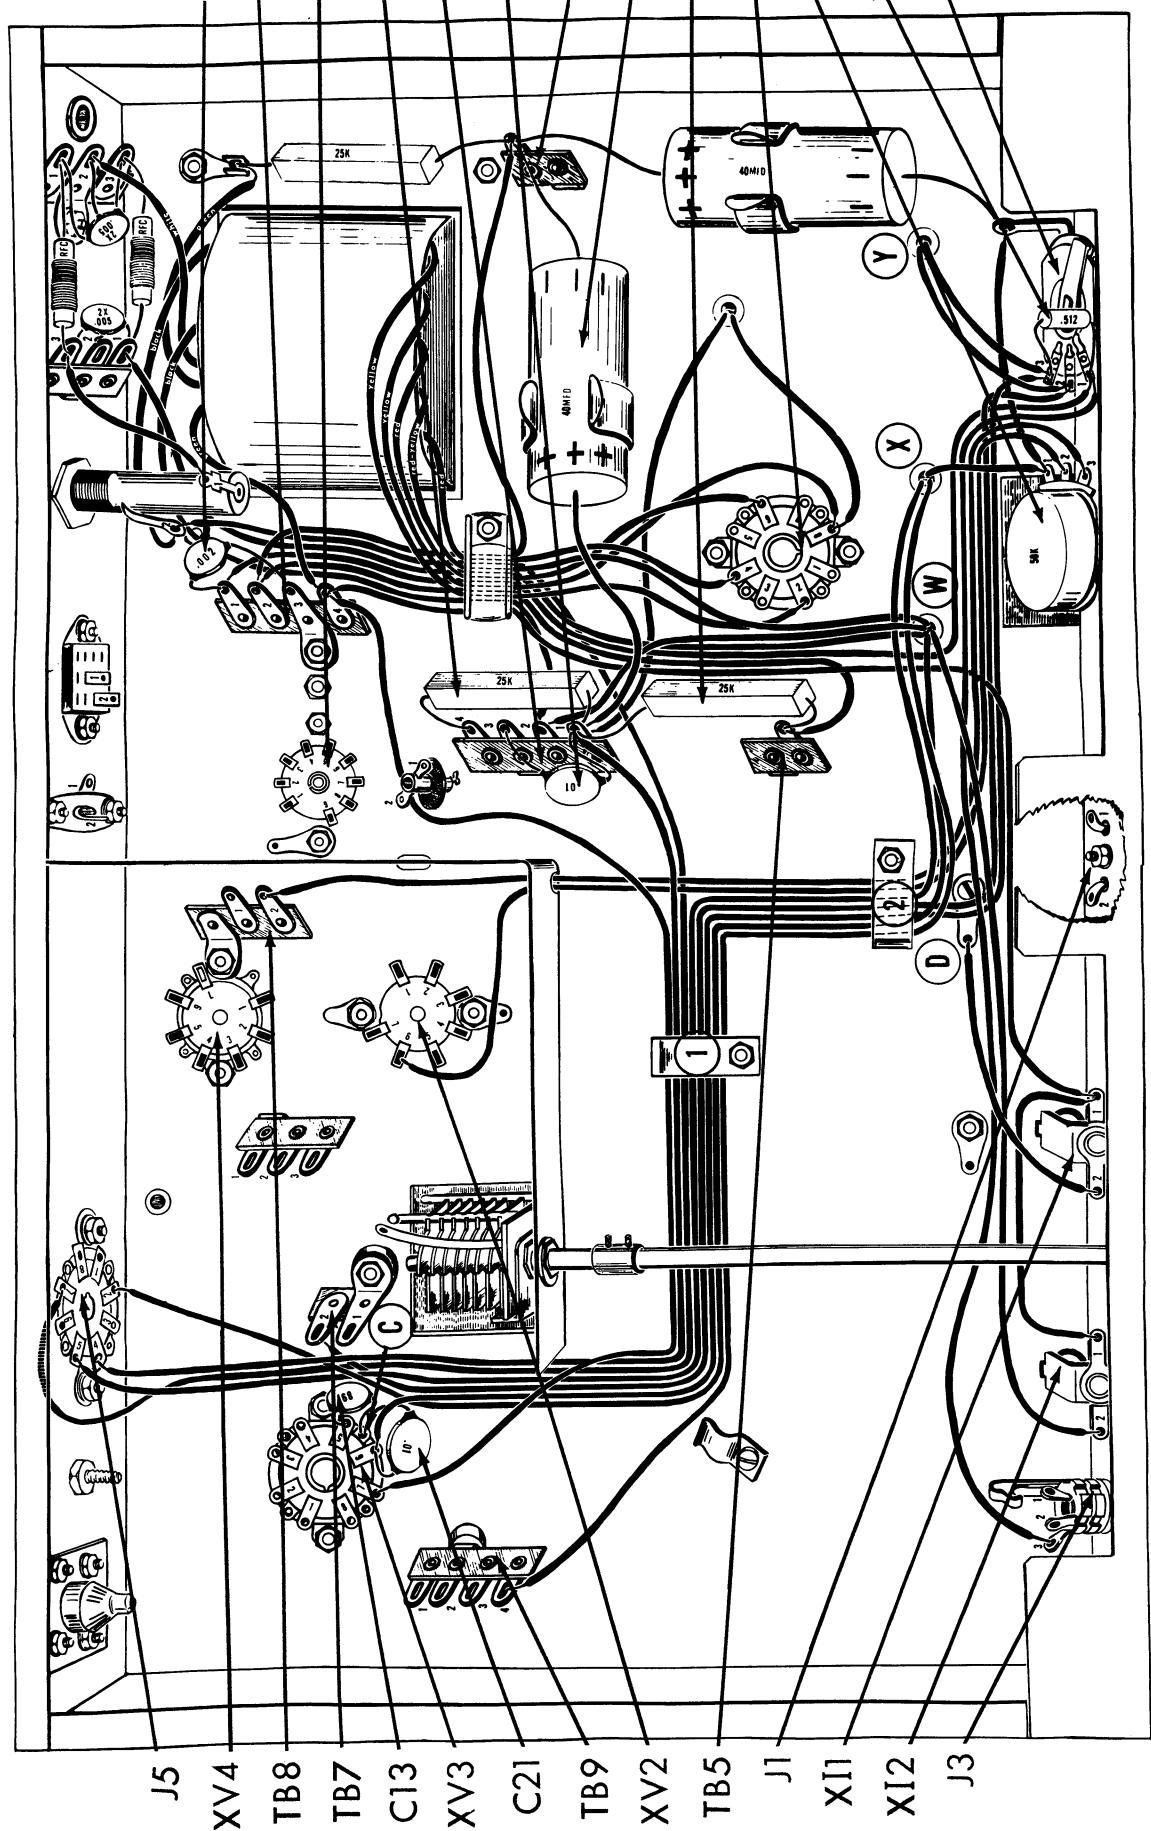

Fig. 5
4. (✗) Fig. 1. Mount the single pole single throw slide switch, S1, as shown. See Fig. 5 for orientation. Use two #4-40 x 1/4 screws, two #4 lockwashers and two #4-40 x 1/4 hex nuts.
1. (✓) Fig. 1A. Mount one cable clamp facing away from TB5, as shown. Use one #6-32 x 1/4 screw, one #6 lockwasher and one #6-32 hex nut. See Fig. 5.
1. (✓) Fig. 5. Connect one end of a 17" piece of yellow wire to S4B-2 (C). Run the wire along the front apron of the chassis. Bend the wire at a right angle and run it under metal cable clamp 2; bend the wire again at a right angle and run through metal cable clamp 1; finally bend the wire at another right angle and run it along the chassis as shown. Connect the remaining end of the wire to TB7-2 (C).
2. (✓) Fig. 5. Cut both leads on a .01 mfd (10K or 10,000 mmf) disc capacitor, C21, to 1/2". Connect from XV3-6 (C) to ground lug "C" (C) at XV3.
3. (✓) Fig. 5. Cut both leads on a 68 mmf disc capacitor, C13, to 1/2". Connect from XV3-5 (C) to ground lug "C" (S2) at XV3.
4. (✓) Fig. 5. Connect one end of an 18" piece of black wire to S4B-3 (C). Run the wire along the front apron of the chassis. Bend the wire at a right angle and run it under metal cable clamp 2; bend the wire again at a right angle and run it under metal cable clamp 1; finally bend the wire at another right angle and run it along the chassis as shown. Connect the remaining end of the wire to XV3-6 (S2).
5. (✓) Fig. 5. From hole "Y", connect the red wire to S4B-3 (C) and the black wire S4B-2 (S2).
6. (✓) Fig. 5. Cut both leads on a .512 ohm resistor, R10, to 1/2". Connect from S4B-1 (C) to S4B-3 (S3).
7. (✓) Fig. 5. Connect a 12" piece of brown wire from S4B-1 (S3) to J3-3 (C). Run along the front apron of the chassis as shown.
8. (✓) Fig. 5. Connect one end of a 13" piece of blue wire to R7-2 (S1) and one end of a 13" piece of red wire to R7-3 (S1). Run both wires along the front apron of the chassis. Bend both wires at a right angle and run them under the metal cable clamp 2. Run both straight along the chassis as shown, through the semi-circular opening at the bottom of the bottom shield. Connect the red wire to TB8-2 (C) and the blue wire to XV2-6 (C).
9. (✓) Fig. 5. From hole "X" connect the yellow wire to R7-1 (S2).
10. (✓) Fig. 5. From hole "X", run the orange and brown wires along the front apron of the chassis. Bend both wires at a right angle and run them under metal cable clamp 2. Bend both wires again at a right angle and run both under
11. (✓) Fig. 5. From hole "W", run the violet lead under metal cable clamp 2. Bend the wire at a right angle and run it under cable clamp 1; bend the wire again at a right angle and run it along the chassis as shown. Connect to J5-2 (C).
12. (✓) Fig. 5. Connect one end of a 12" piece of red wire to TB1-1 (C). Run it under metal cable clamp 1. Bend the wire at a right angle and connect the remaining end to J5-4 (C).
13. (✓) Fig. 5. Connect one end of a 15" piece of green wire to TB4-4 (C). Run it along the chassis as shown, under metal cable clamp 1. Bend the wire at a right angle. Connect to KV3-7 (C).
14. (✓) Fig. 5. Connect the green lead from hole "W" to XI2-2 (S1).
15. (✓) Fig. 5. Connect a 4" piece of green wire from XI1-1 (S2) to XI2-1 (S1).
16. (✓) Fig. 5. Connect a 3" piece of black wire from ground lug "D" (C) to XI1-2 (S1).
17. (✓) Fig. 5. Cut both leads on a 25K, 10 watt, wire-wound resistor, R16, to 3/4". Cover each lead with a 1/2" piece of spaghetti. Connect from TB5 (S2) to TB1-1 (C).
18. (✓) Fig. 5. Connect the blue lead from hole "W" to TB1-2 (S2).
19. (✓) Fig. 5. Cut both leads on a 01 mfd (10K or 10,000 mmf) disc capacitor, C35, to 3/4". Connect from TB1-1 (C) to TB1-3 (S1).
20. (✓) Fig. 5. Cut both leads on a 25K, 10 watt, wire-wound resistor, R2, to 3/4". Connect from TB1-4 (C) to TB1-1 (C).
21. (✓) Fig. 5. Cut the positive (+) lead on the 40 mfd, 450 volt electrolytic capacitor, C27, to 2 1/4" and cover with a 2" piece of spaghetti. Connect this end to TB1-1 (S6). Connect the negative (-) end to TB6 (S4).
22. (✓) Fig. 5. Cut both leads on a .002 mfd (2K or 2,000 mmf) disc capacitor, C4, to 3/4". Connect from TB4-1 (C) to TB4-3 (S1).